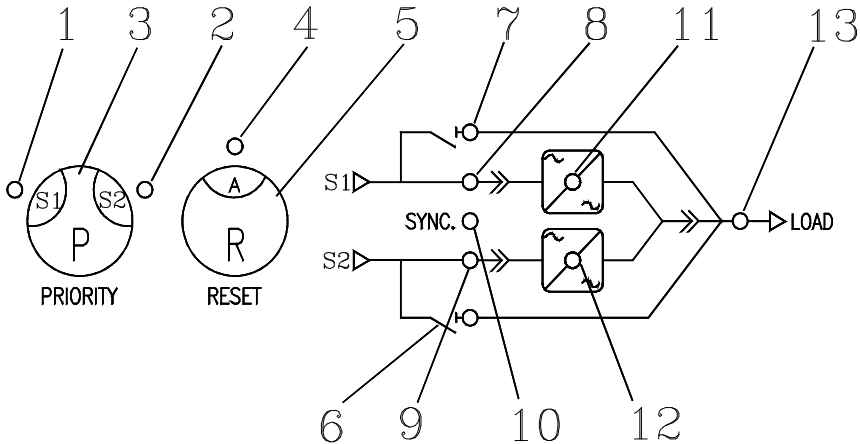

Fig. 12 – A view of the display and control panel
3. Wait for several seconds until the logic is enabled and the following LEDs on the display are switched ON (see Fig. 12)
3. Wait for several seconds until the logic becomes intelligent and the following LEDs on the display are switched ON (see Fig. 12)
4. Wait for several seconds until the logic becomes intelligent and the following LEDs on the display are switched ON (see Fig. 12)
The load controls are located on the front panel (see Fig. 4 and Fig. 12).